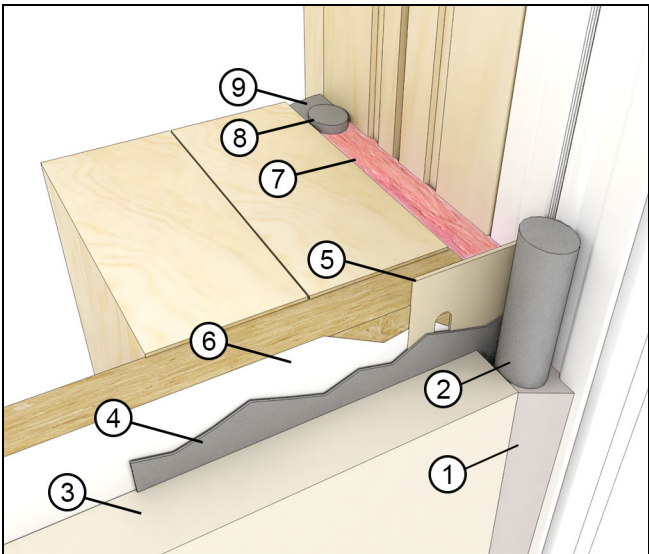

Figure 44
1. For ALL applications: Once the exterior finish such as siding or brick veneer is installed, apply bead of sealant between the finish and the frame exterior or casing along the sides. Apply additional beads approximately 1"- 2" (25-51) at the ends on top of the drip cap. Use a backer rod when necessary. See Figure 44 and Figure 45.